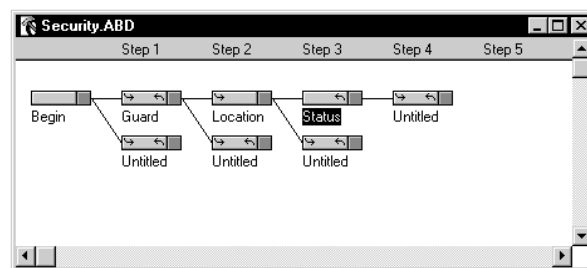

Figure 4-37 New Input Handler Added
12. Click **New Input Handler** or choose **New Input Handler** from the **Application** menu. A new Input Handler is added to the “Status” Handler (Figure 4-37).